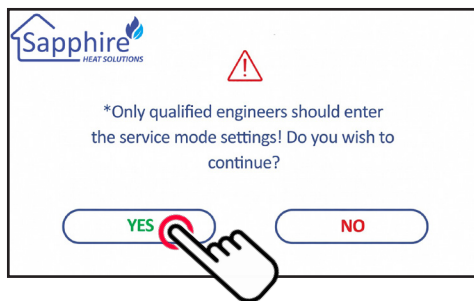

Fig.28.2
- User will be prompted with a warning message stating that "Only Qualified engineers should enter the service mode settings" **Fig. 28.2**